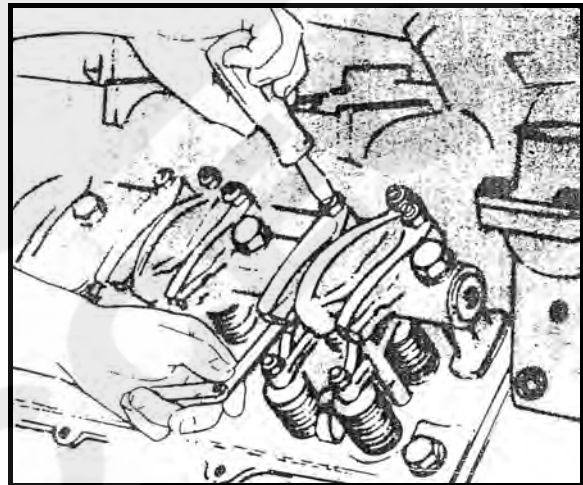

Fig. 2-21 Adjust valve clearance
2. Insert the proper feeler gauge between the rocker lever and crosshead contact surfaces (Fig. 2-21). See Table 2-4 for valve clearance values.